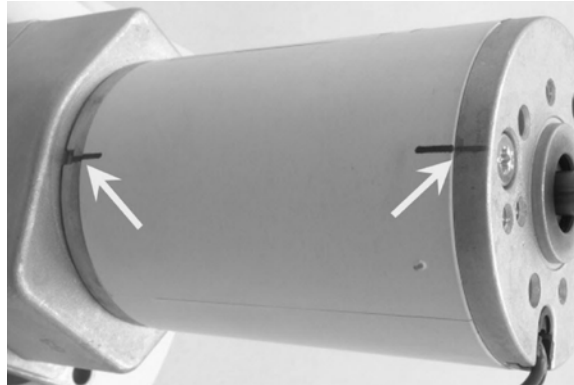

Figure 4 - Motor/Gearbox Assembly with marks.
7. Using a marker, make marks on the motor housing and motor end caps (Figure 4). These marks will ensure the correct alignment when reassembling the motor case.